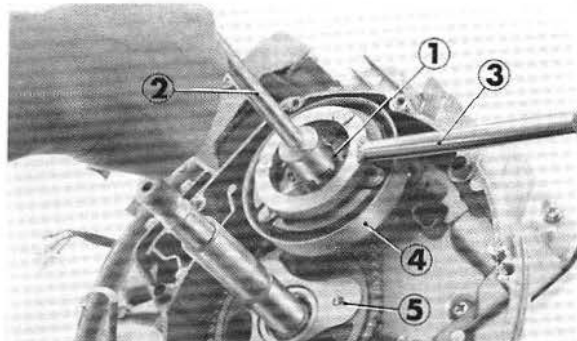

Fig. 2-38 ① 14 mm lock nut ② Clutch outer spanner ③ Clutch outer holder
7. Unlock the tongued washer and unscrew the 14 mm lock nut, the primary driven and drive sprockets. (Fig. 2-38)